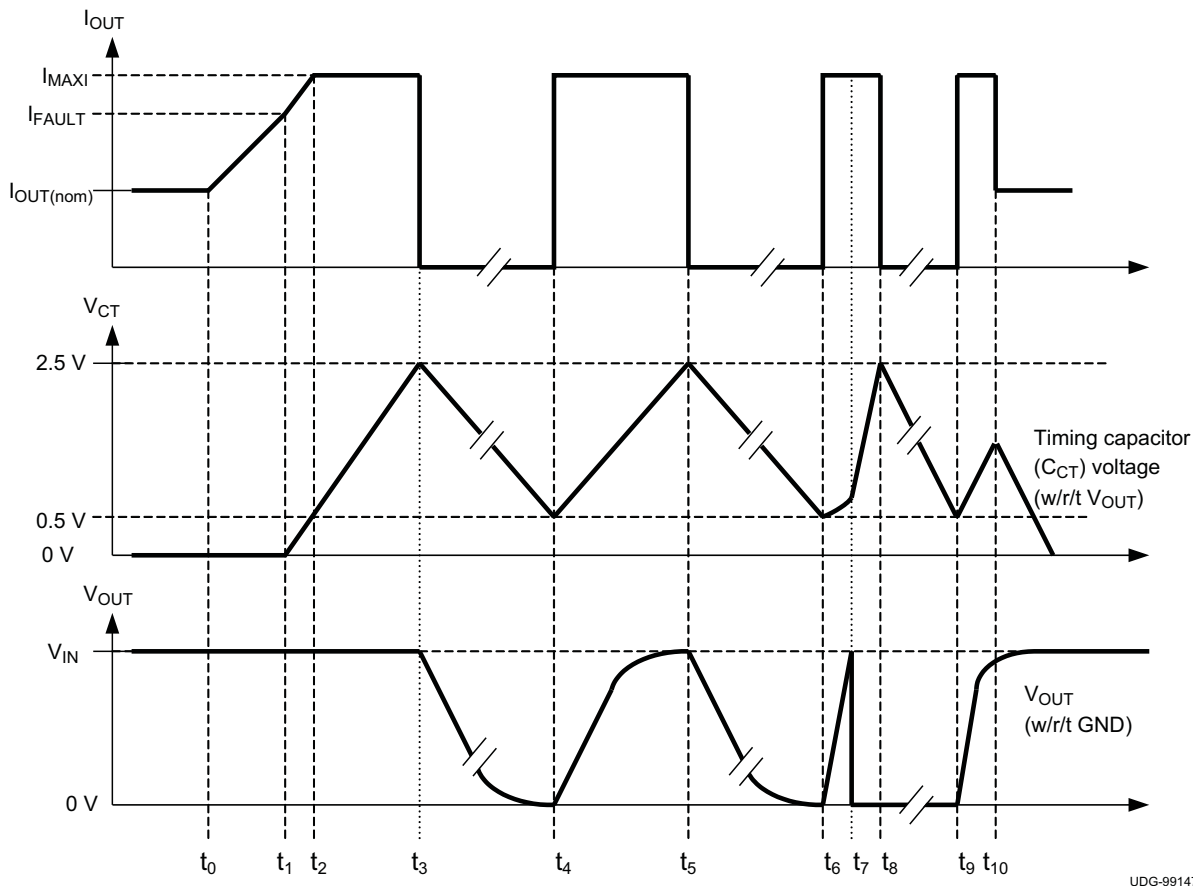

Figure 2. Typical Timing Diagram
- I_{PL} is 0 μA under normal operations (see Figure 2) (2)